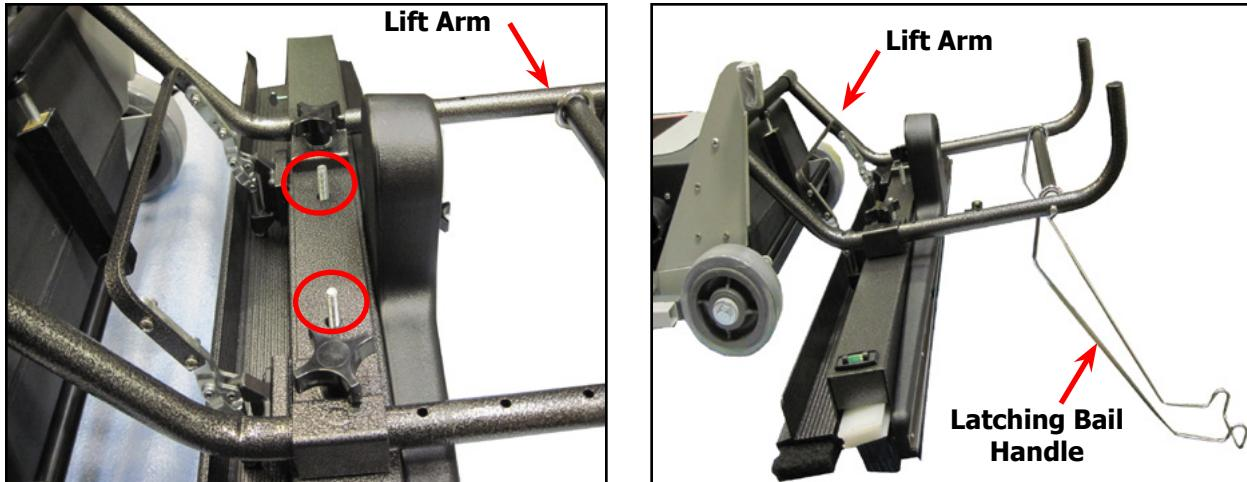

Figure 5. Position Pad Holder Lift Arm on Head Assembly
3. Position the housing assembly's lift arm onto the head assembly, aligning the mounting holes on the lift arm with the fasteners on the head assembly (see Figure 5).